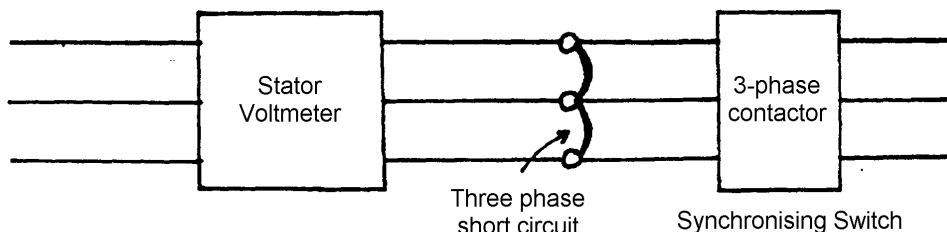

Figure 4
- ii) Short-circuit the stator terminals on the panel (see Fig 4).